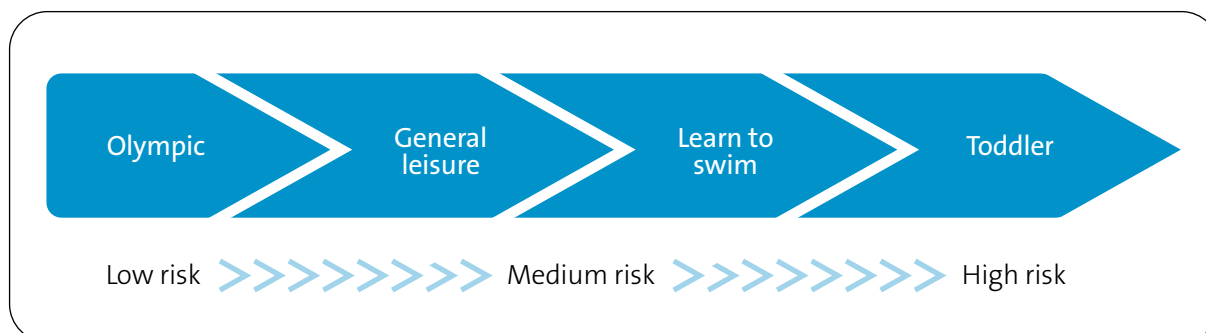

Figure 24 – Microbial risk for various swimming pool types
- The larger the bather loading on a pool (ie the number of bathers per unit volume), the higher the risk. Figure 24 shows the types of pools in an